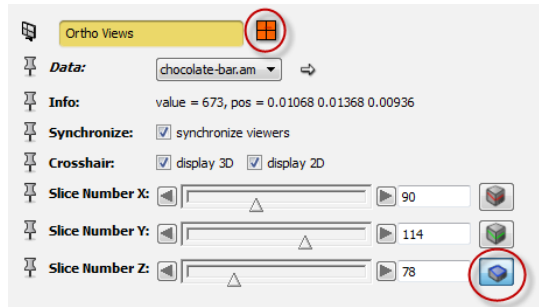
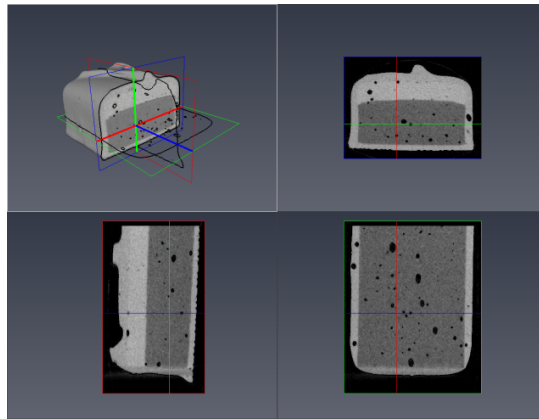

Figure 3.23: Visibility buttons and clip button in Ortho Views module
Figure 3.24: Ortho View clipping
- In the *Properties* panel, click on the clip button (the little cube split by a blue line, see Figure 3.23) of the *Slice Number Z* ports of the Ortho View (if the slider is not visible in *Properties* panel, select the Ortho Views module in the Project View). You will then see a cut in the 3D volume rendering representations (see Figure 3.24).